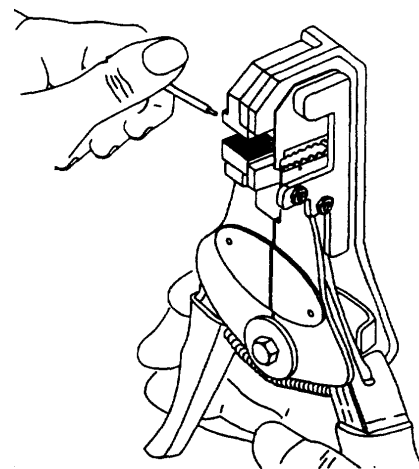

Figure 1. Wire Stripping
a. Failure to use the correct type of stripper blade may damage wire strands, or not strip insulation as indicated in Figure 1. Ensure that the stripper blade installed in the stripping tool matches the type and size of wire to be stripped by inspecting the tool handle for the correct AS specification part number or for the Stripmaster tool blade number. Refer to Tables 1 or 2 to determine the correct tool and replaceable worn blade for the wire being stripped. For obsolete Stripmaster tool and blades see Tables 3 and 4. When authorized, Stripmaster stripper tools and blade sets may be replaced with the AS5768 tools and blade sets as shown in Tables 3 and 4.
h. Nicked or broken strands must be within tolerance (Table 5). Longitudinal scratches in copper wire are not considered cause for rejection or rework (see Figure 1).
c. Upon determination of the proper wire size, place the wire perpendicular in the corresponding size slot in the stripper. The exposed end is the amount of insulation to be stripped, adjust the wire in the size slot to strip the correct amount (See Figure 1).
e. Close the handles with a firm steady pressure to strip the insulation from the wire (see Figure 1).
f. Upon completion of the stripping partially release the handle pressure to allow the jaws to open and remain separated. Remove the stripped wire. The partial pressure release is a mechanical feature which prevents the jaws from fully closing and damaging or bird-caging the stripped end of the wire (see Figure 1).